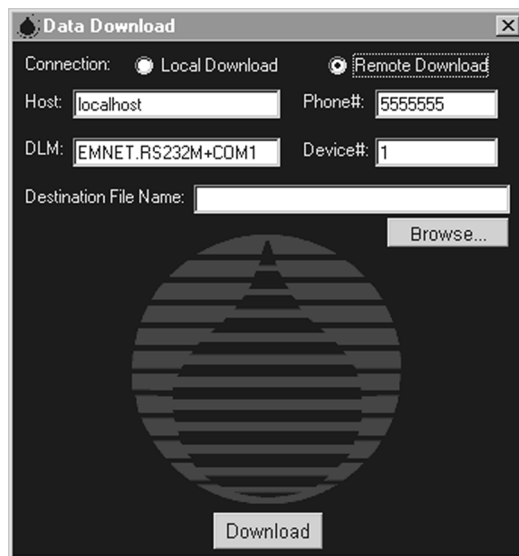

Figure 10-9: Remote Data Download Dialog Box
2. If you have a direct RS232 connection to the LMI Liquitron™ DC5500 Controller, make sure that next to CONNECTION: the LOCAL DOWNLOAD option button is selected, as shown in Figure 10-9.